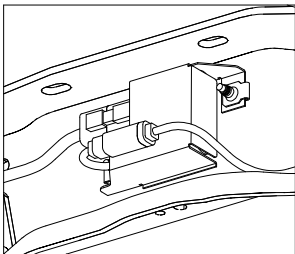
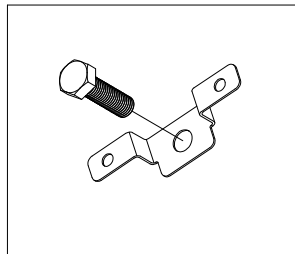
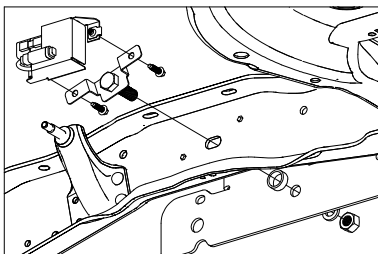
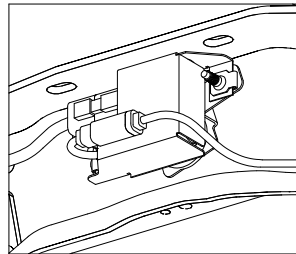

Figure C2: Inside of the passenger side frame.
Figure C3: Supplied bracket and 3/4" bolt.
Figure C4: Inside of the passenger side frame.
Figure C5: Installed bracket and module.
2. **Relocate sensor control module.** On certain models of the Diesel Ford Super Duty a sensor control module is located over a hole needed to install the passenger side plate of the B&W hitch. A bracket has been supplied to relocate the module so the side plate can be installed. To begin, locate the module on the inside of the passenger frame rail, see Figure C2. Once located, remove the two bolts holding the module to the frame. Caution, do not remove heat shielding from wiring harness. Wiring must remain as close to its original location as possible to protect it from the heat of the exhaust system. When installing the passenger side side plate in the next step add the supplied relocation bracket to the 3/4" bolt, see Figure C3. Attach the module to the bracket with the two factory bolts, see Figure C4. Insert 3/4" bolt through oval slot in the frame and continue with side plate installation. See Figure C5 for relocated module in its final position.